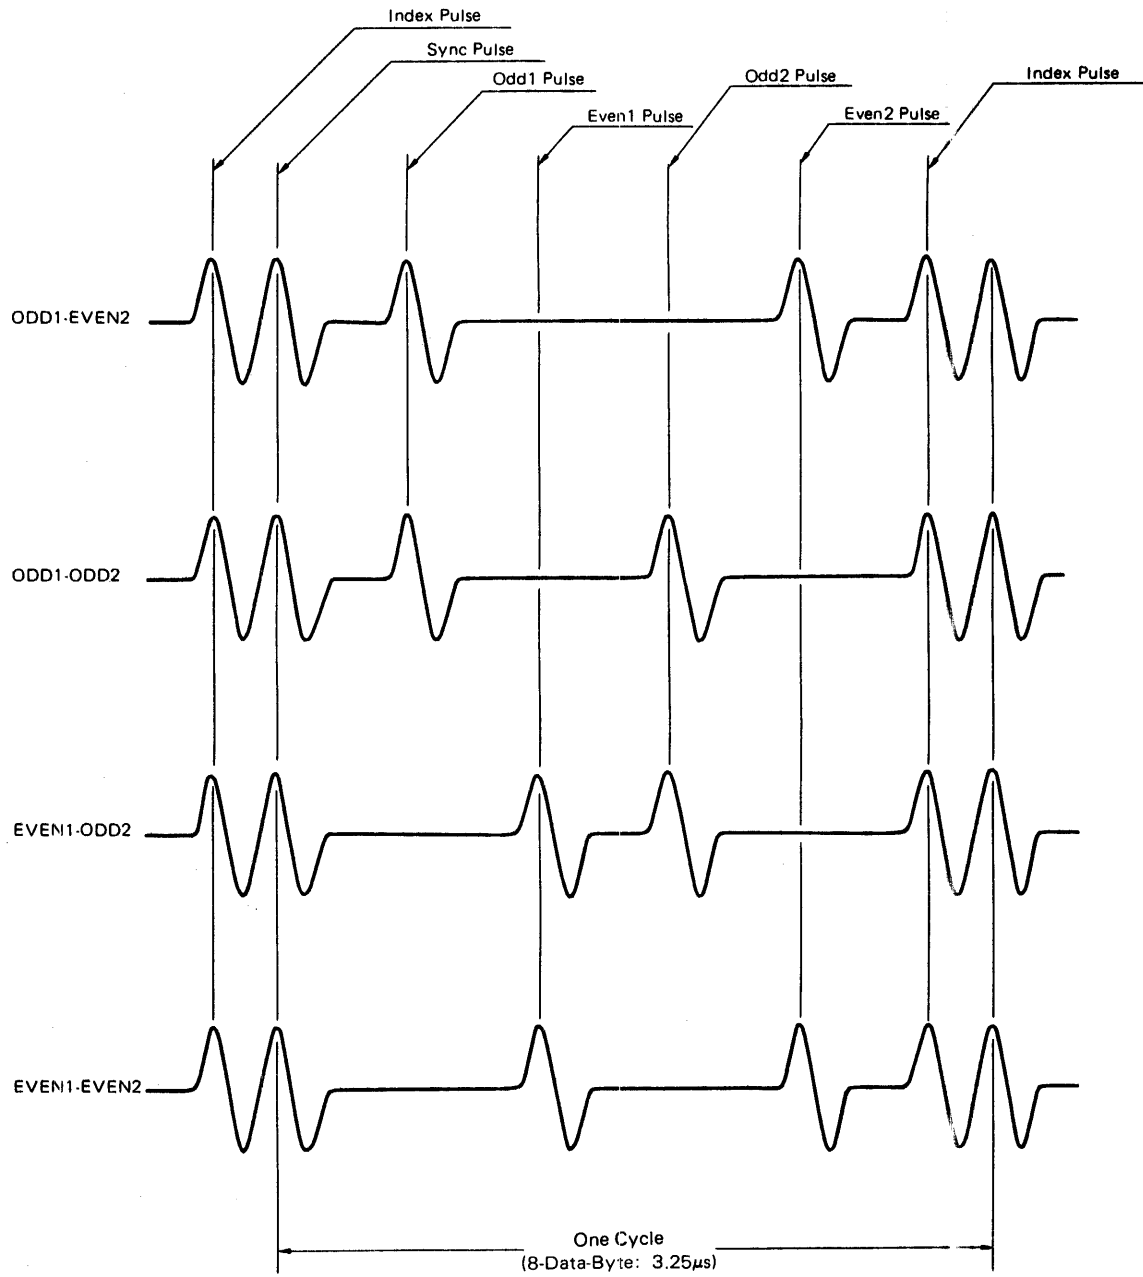
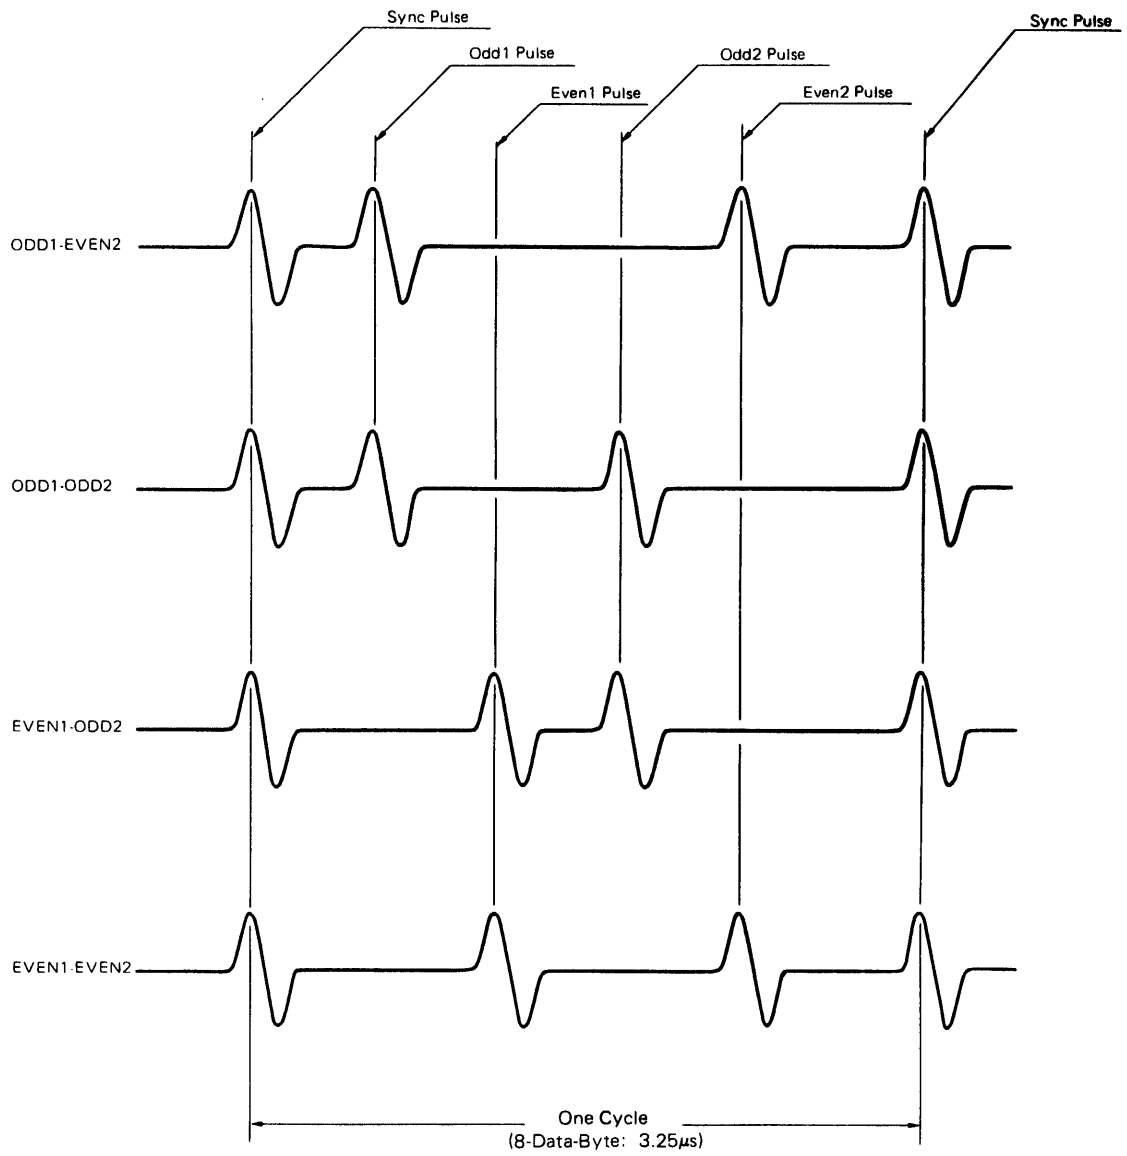

Figure 4.2 Normal bit pattern
Figure 4.3 Index bit pattern
Angular positioning is determined by a series of sync bits which are written on each track. Through a combination of Index Bit and Normal Bit; the “sync pattern” is developed. A series of unique sync patterns is written at the factory and used in the identification of specific disk regions. Refer to Figure 4.2 and Figure 4.3. Index mark, IGB, OGB1, and OGB2 patterns are described in item (3) of subsection 4.2.3.